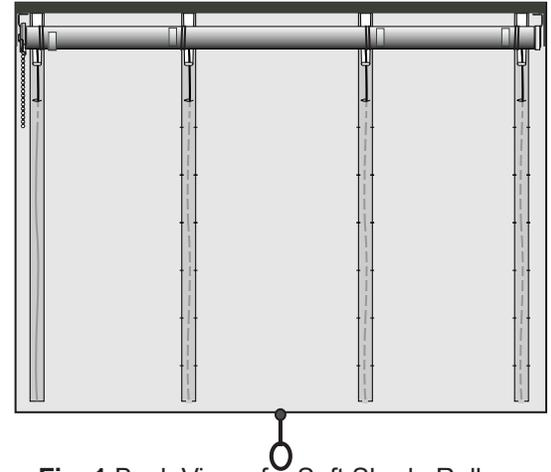

Fig. 1 Back View of a Soft Shade Roller Clutch System
The **Soft Shade Roller Clutch System** manually raises or lowers soft shades by using Roller-Clips to attach the lift cords to the roller. **The total weight of the shade should be less than 8 lb for RC3; and 15 lb for RC4 clutch.** Compared to our Soft Shade Clutch System, this system is easier to fabricate. This system also raises and lowers the shade much faster, however the pulling force required to raise the shade is much higher. In addition this system has a shade **length limitation of 10 feet or less.** Longer lengths may not raise evenly. Fig. 1 shows the back view of an assembled soft shade roller clutch system with 4 Roller-Clips on the roller when the shade is all the way down.
Encased Lift Cord Shroud Tape Arrangement (see Fig. 1): The shade can be made with Encased Lift Cord on the edge or well inside the edge of the shade. It is important to consider Encased Lift Cord location and spacing before you attach Encased Lift Cord to your shade. **Recent industry child safety guidelines recommend a 2" space between the edge of the shade and the edge row of Encased Lift Cord. The topmost Encased Lift Cord Tape on the shade should be no more than 8" below the dust board. The cord should exit the encased lift cord tape just above the last track.**
Roller Clip Arrangement (Fig. 1): Roller clips should be $\frac{3}{4}$ " offset from the lift cords. Roller clips should be mounted to the left and right of the lift cords alternately across all inner lift cords. Otherwise shade may creep to one side when raised.
When looking down the roller, be sure all clips are aligned and every roller clip is offset alternately from its corresponding lift cord by 3/4" as shown in Fig. 1.
Step 9. Temporarily install dust board to the wall. Pull the control bead chain so that the clips are at the bottom of the roller as shown in Fig. 1. Tie the other end of each lift cord to its corresponding bottom ring. If necessary adjust the cord tension by re-tying the cord to the bottom ring or use an orb for easy leveling/adjusting. Run the shade up and down several times, and check for either too much tension or slack on the lift cords when shade is all the way down. Finally take off orb, if used, and tie off cord through the bottom ring. Trim off excess cord.